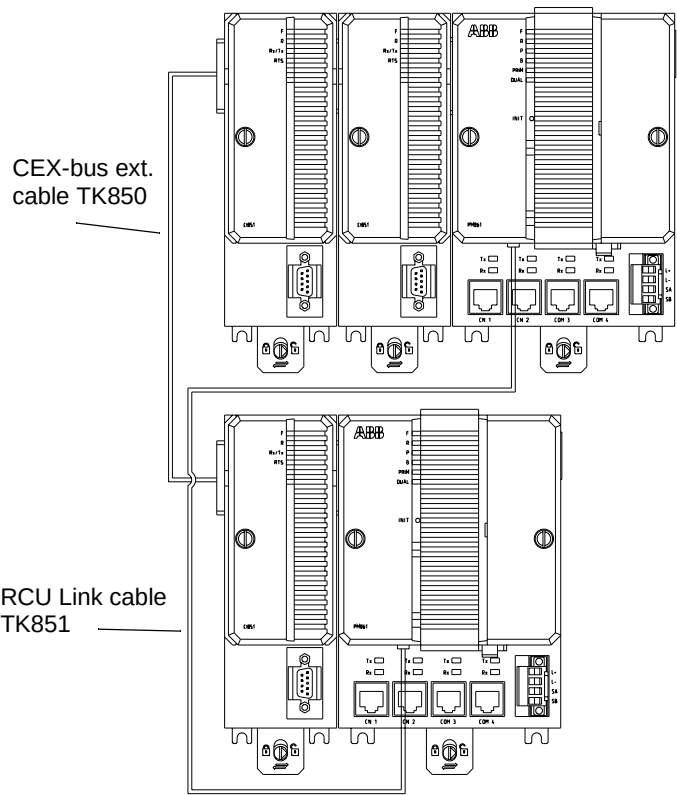

Figure 16. Connection of CPU redundancy
3. Mount the CEX-bus extension cable TK850 to the units at farthest away from the processor units or, if no units are mounted, directly to the CEX-bus on the processor unit. The CEX-bus extension cable must be connected to both CPUs whether or not there are any other CEX-bus units (Figure 16 on page 66).